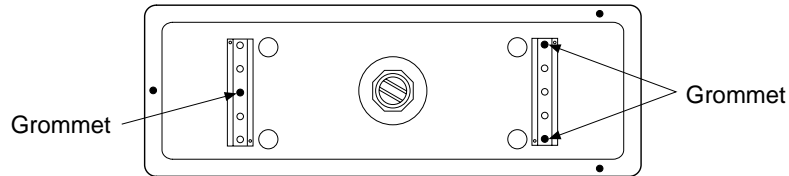

Figure 3 - Installing Grommets, 20,5 kW (70,000 Btu/Hr Model) Only
- Fuel Cap (1)
- Cushion Grommet (3)
2. Install three cushion grommets in holes on bottom of fuel tank. Install two grommets on one foot and one grommet on opposite foot (see Figure 3).